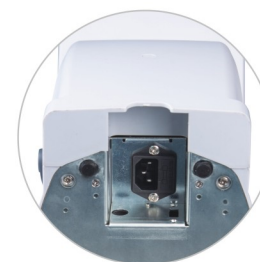

Figure 6.18 USB interface at back side of machine
In order to make future software updates conveniently, we make an USB update interface at back side of the machine. Fig. 6.18 is the backside view of machine.
1.As shown in Figure 6.18, this machine has a standard DB9 serial port, can transmit data over 232 lines.